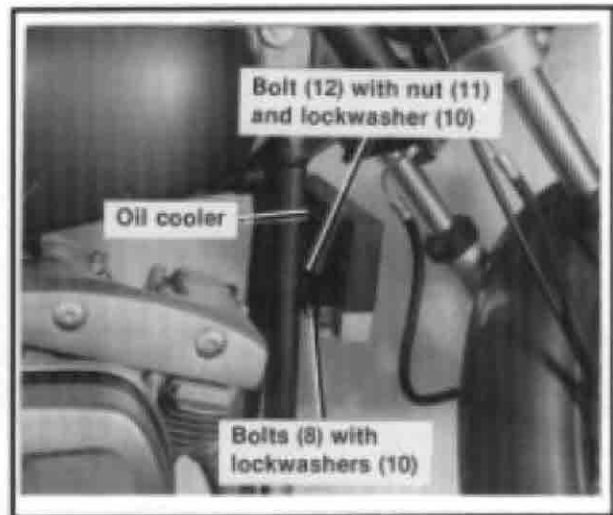

Figure 4. FX Oil Cooler Mounting
- Insert bracket frame bolt (12) through the top hole in the triangular mounting bracket (1). Assemble the oil cooler to the triangular mounting bracket (1) using bolts (8) and lockwashers (10). Tighten bolts to 12 ft-lbs torque.
- See Figure 4. Install the oil cooler assembly, placing bracket frame bolt (12) through the hole provided. Secure to frame using locknut (11) and lockwasher (10). Tighten to 12 ft-lbs torque.